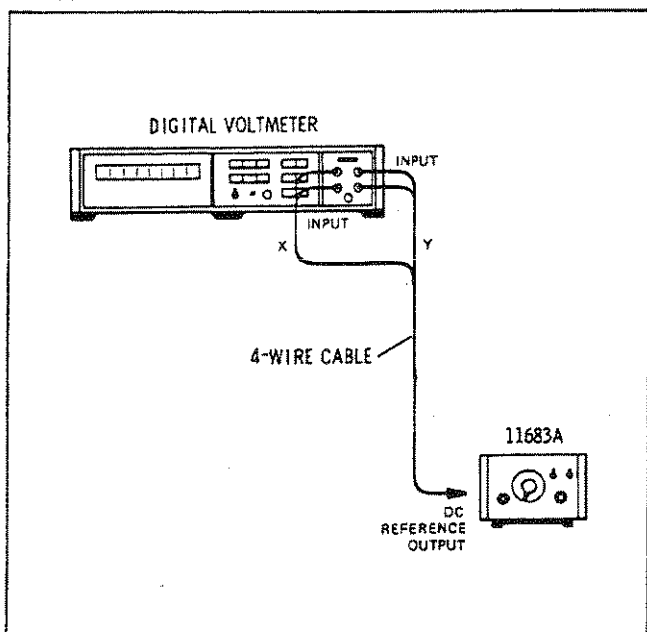

Figure 8. Range Switch Performance Test Setup
c. Connect the equipment together as shown in Figure 8.